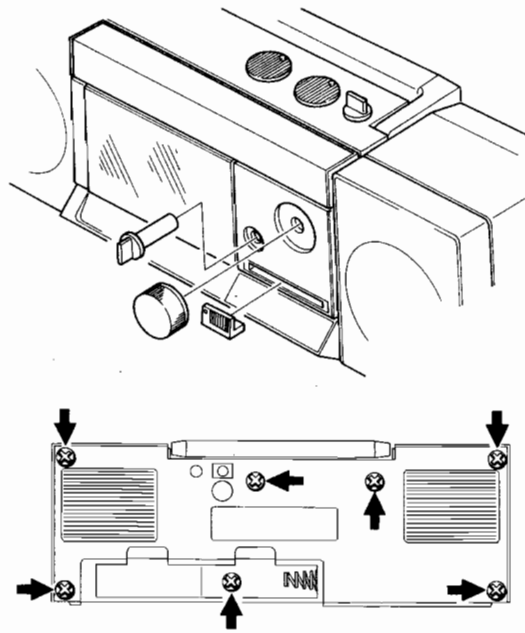

Fig. 1
- 1) Remove the 7 screws and 3 knobs. (See Figure 1)